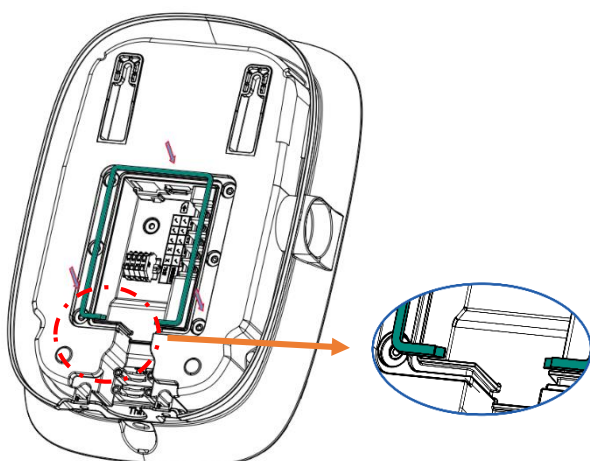

Figure. 6 Installing sealing strip
② Take out the cable inlet rubber plug from the spare parts package, The sealing points of network cable and trip signal cable shall be cut before use, as shown in Figure. 6.